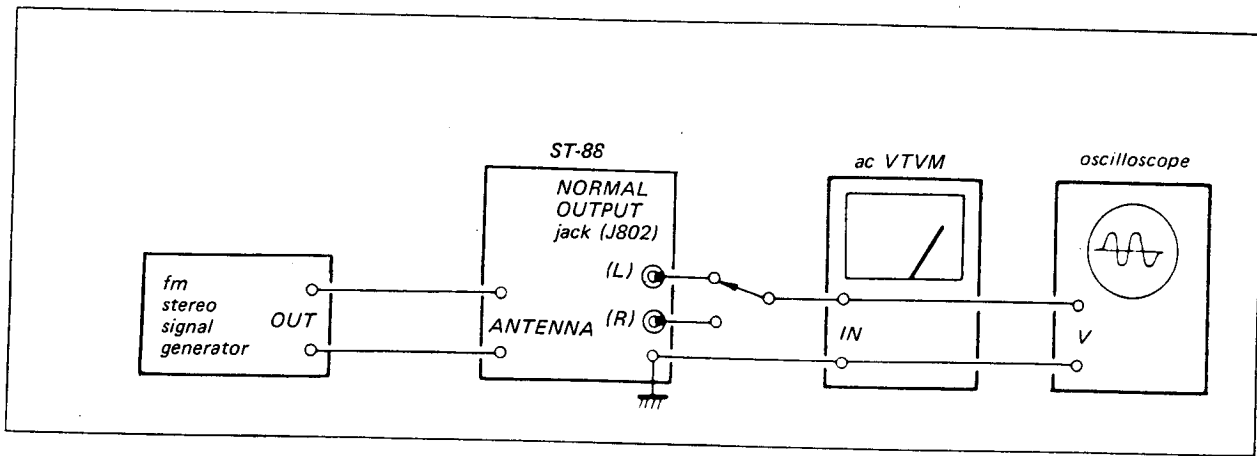

Fig. 3-8. Fm stereo separation adjustment test setup
2. Connect the test equipment as shown in Fig. 3-8, then set the fm stereo signal generator controls as follows: